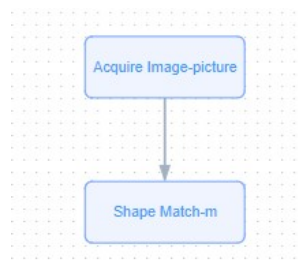

Figure 9.1.2 Visual Flowchart
Step 2: Prepare the visual project flowchart, as shown in Figure 9.1.2. See section 4.2.2 for the specific settings of the template matching tool.